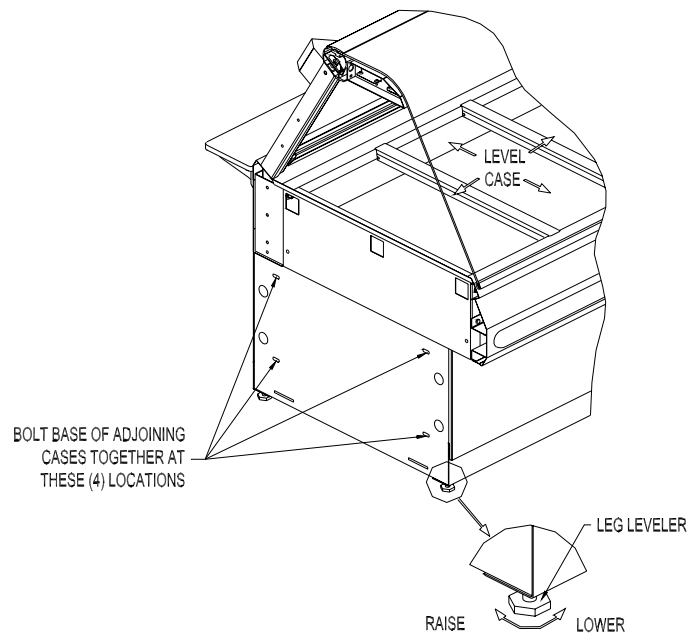

Figure 1. Floor Model - Leveling & Kick Plate Mounting
Deli cases must be installed level to insure proper operation and alignment to adjoining equipment. Use a carpenter's level as shown in Figure 1. Begin lineup leveling from the highest point of the store floor.
1. Level the case using the leg levelers at the corners of the case (Figure 1).
6. When level, bolt the two cases together at the locations shown in Figure 1.